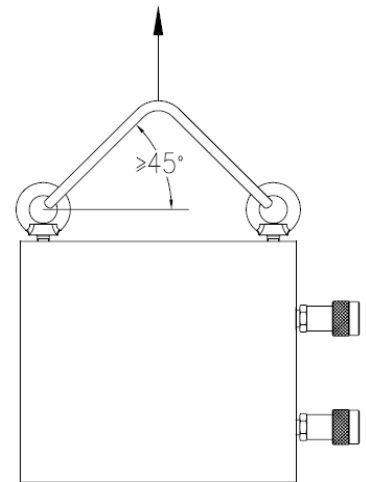

Figure 5
**WARNING:** To avoid equipment failure and possible personal injury, please always use all of the eye bolts when hoisting cylinder, Lifting straps must be at a 45 degree or greater angle ($\geq 45^\circ$) from horizontal (See Figure 5).